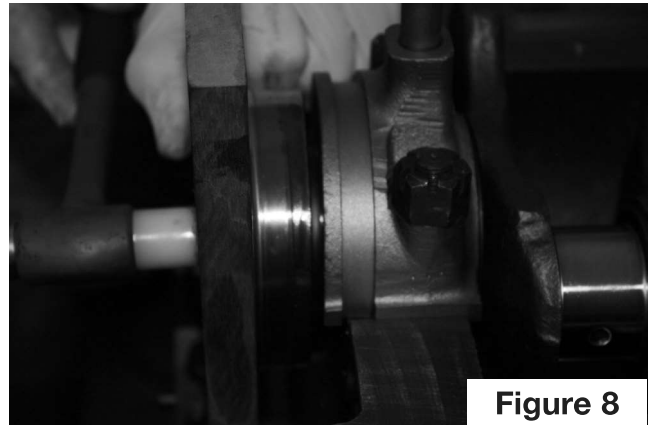

Figure 8
- 8) Select a flat piece of wood that will completely cover the Speedi-Sleeve. Hold the wood (2a) up against the edge of the Speedi-Sleeve and tap the wood gently with the mallet until the wood makes contact with the rear of the crank. Make sure the wood is touching the entire face of the crankshaft flange. This will ensure that the curved portion of the Speedi-Sleeve is parallel with the face of the flange. (Figure 8)
- 8) Using a feeler gauge, measure the distance from either the front of the crankshaft flange or the leading edge of the Speedi-Sleeve to the face of the seal housing half you just installed (8a). It should be between 0.020" and 0.025" in order for the seal to be properly positioned on the flange. (Figure 8)
- 11) Try to install the rear main bearing cap (8b) over its studs. The rear face of the rear main cap was never a machined surface and can be quite uneven. Most main caps are very thick in this area and it will most likely be necessary to remove some material from this surface to allow the cap to fit over its studs. This can be done with a grinder, disk or belt sander, etc. You need to take off enough material so that you have between 0.010" to 0.015" between the main cap and the seal housing when the main cap is tightened down. Don't worry if you end up with a surface that is a bit uneven; the sealer which you will use in a later step will take care of this. (Figure 8)